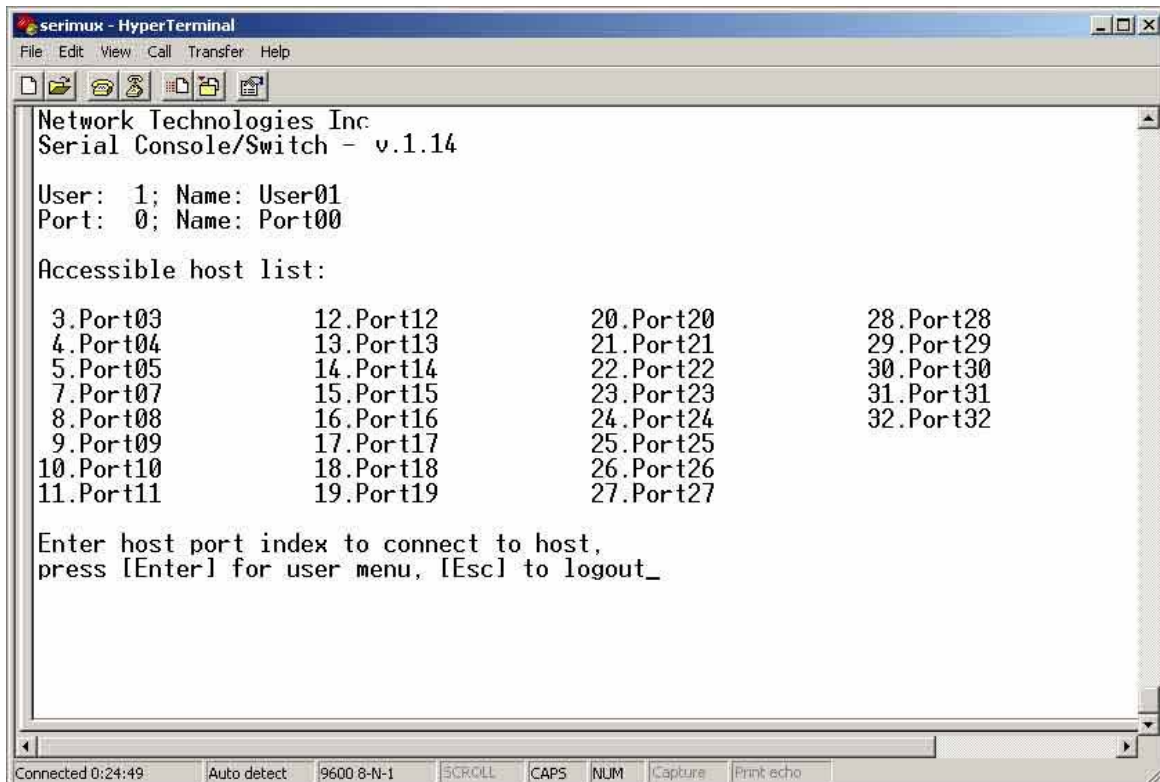

Figure 6- Startup- Accessible host list
4. Press [ Enter ] on the keyboard and wait 3 seconds to be recognized as the default SERIMUX user. The "Accessible host list" for "User01", logged in at "Port00" will be displayed (see Figure 6). By default, all ports are configured as Host ports and all are accessible.